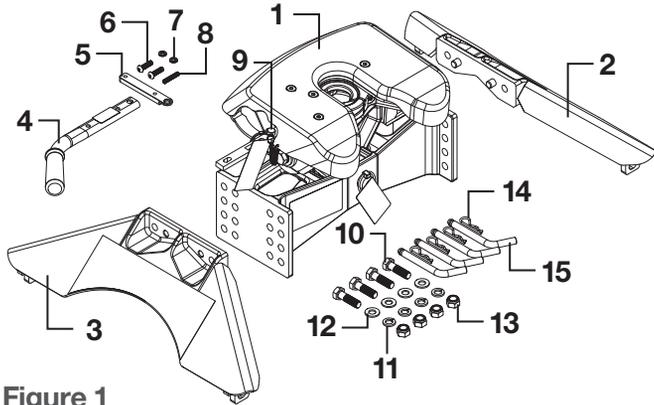

Figure 1
Attach the leg weldments to the mid-section with the supplied hardware, 'Parts List' items 10, 11, 12 and 13. See Figure 1. Depending on which holes are required to achieve proper ride height, attachment of the legs to the mid-section may be easier with the mid-section positioned upside-down.